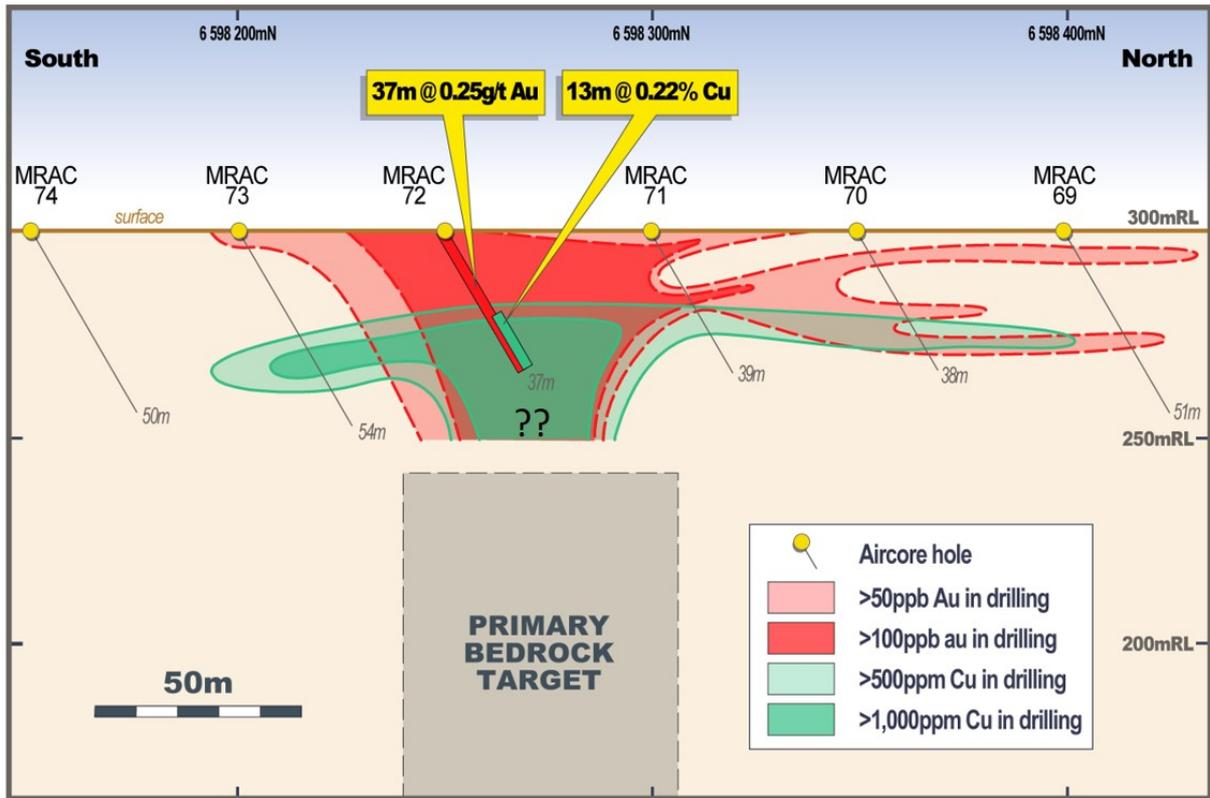

Figure 4: Mt Yule Prospect – Drill section 425675E.
- A *south-eastern* zone defined by a single drill traverse with drill intersections of up to **37m @ 0.25g/t gold and 12m @ 0.22% copper (Figure 4)**.